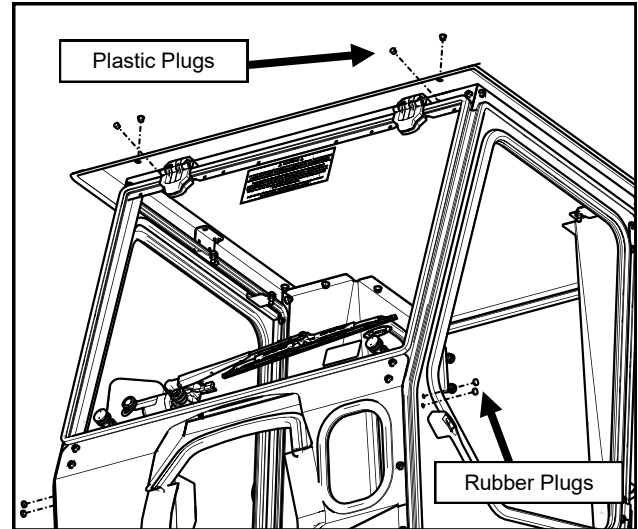

Fig. 30.1 (Install Plugs)
30.1 If installing accessories, please do so now. If not, use the supplied plastic and/or rubber plugs to fill any exposed holes. See Figure 30.1.